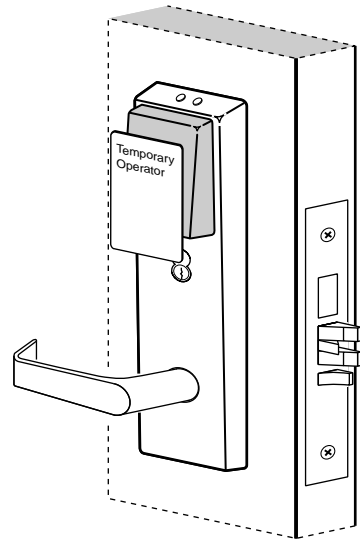

Figure 19c Using the temporary operator card with a proximity card reader
- 1 Hold the temporary operator card within an inch of the lock's card reader, as shown in Figure 19c.